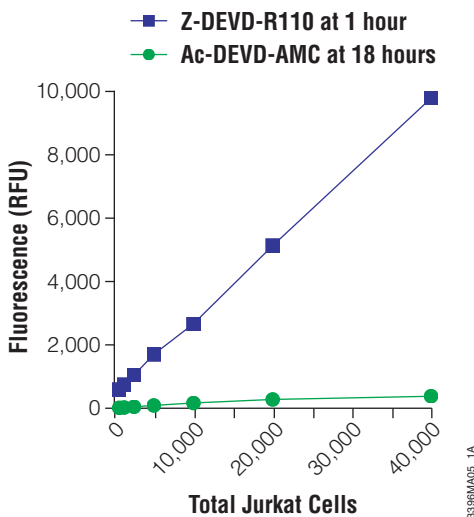

Figure 3. Sensitivity of the Apo-ONE® Homogeneous Caspase-3/7 Assay.
The amount of fluorescent product generated is proportional to the amount of caspase-3/7 cleavage activity present in the sample. The Apo-ONE® Assay using the Z-DEVD-R110 Substrate is more sensitive over short incubation times than assays using the common Ac-DEVD-AMC substrate (Figure 3). The fluorescent product may be quantitated by comparison with standard concentrations of a rhodamine 110 reference standard (Molecular Probes Cat.# R-6479). Specific inhibition of caspase-3/7 activity may be achieved by the addition of Caspase Inhibitor Ac-DEVD-CHO (Cat.# G5961).
Sensitive: Detect caspase activity from as few as several hundred cells in a single assay (Figure 3).
Flexible: Use with purified caspase enzyme (Figure 8); adherent, suspension or primary cell cultures (Figures 3, 4 and 7); or fresh tissue (13). Perform assays in a cuvette or in 96- or 384-well plates.